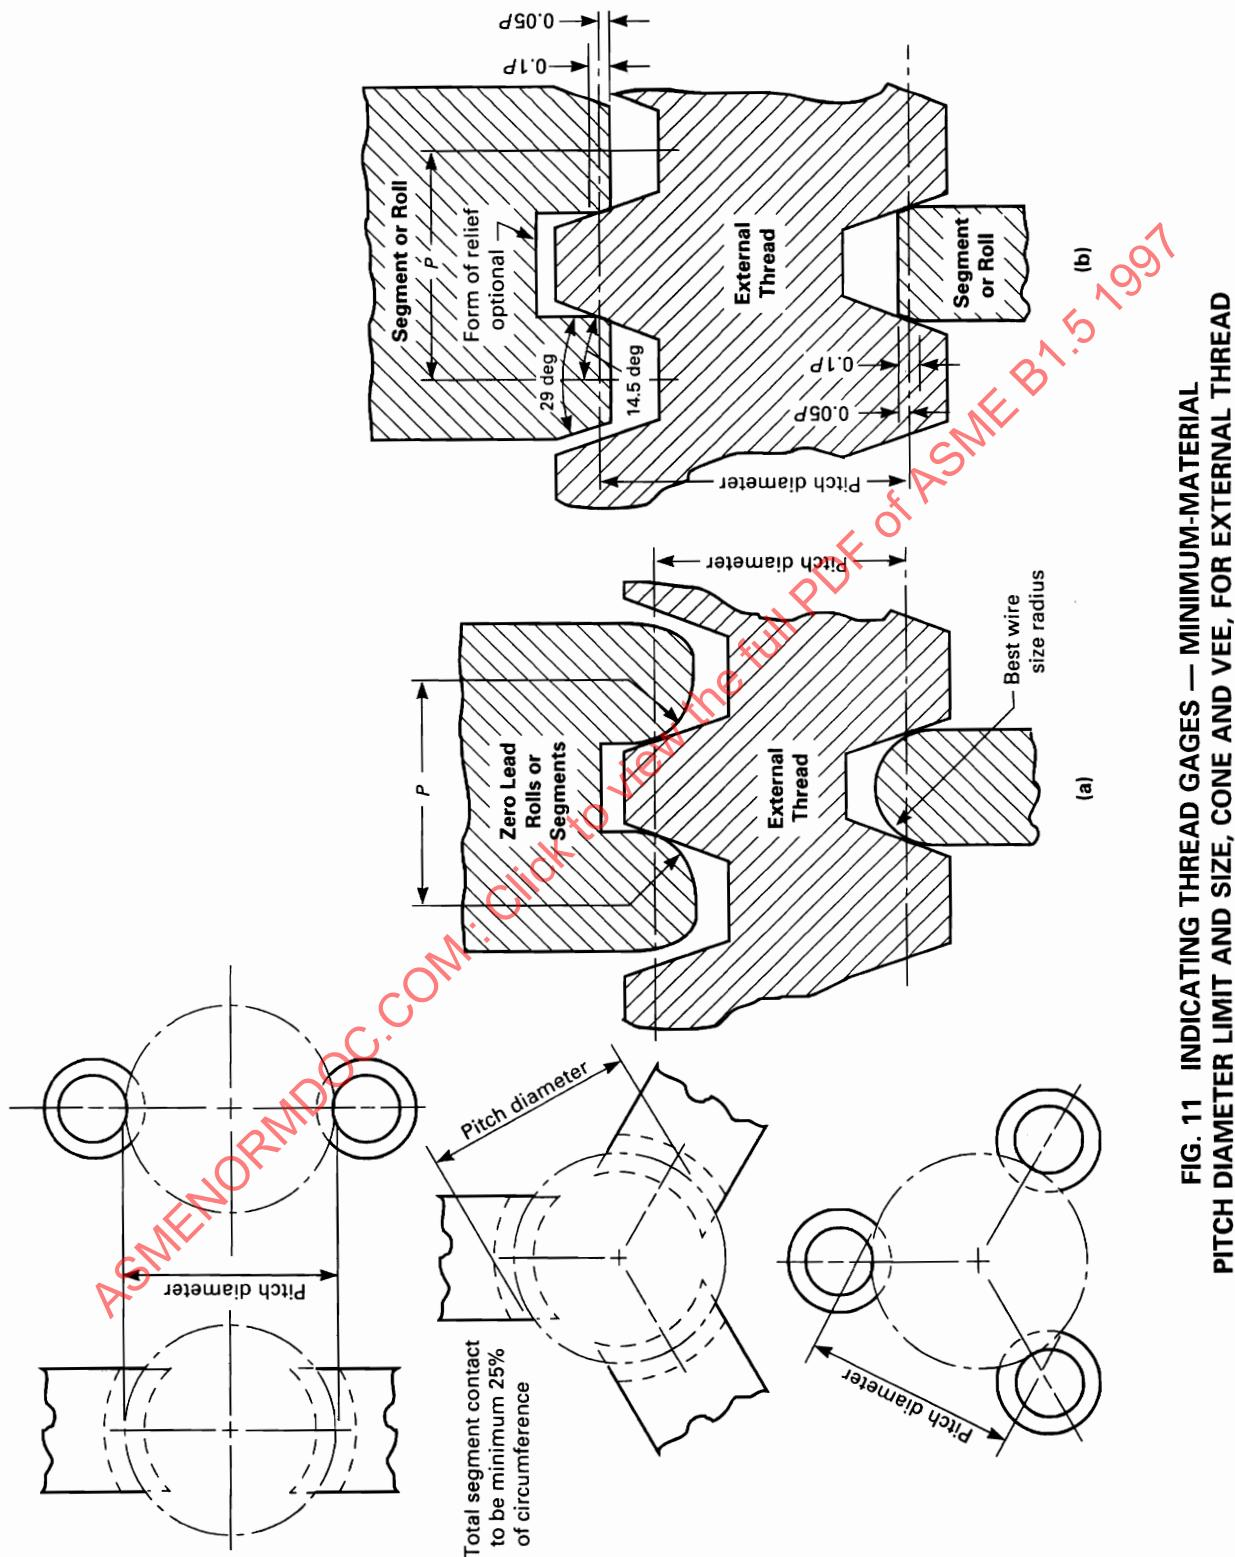
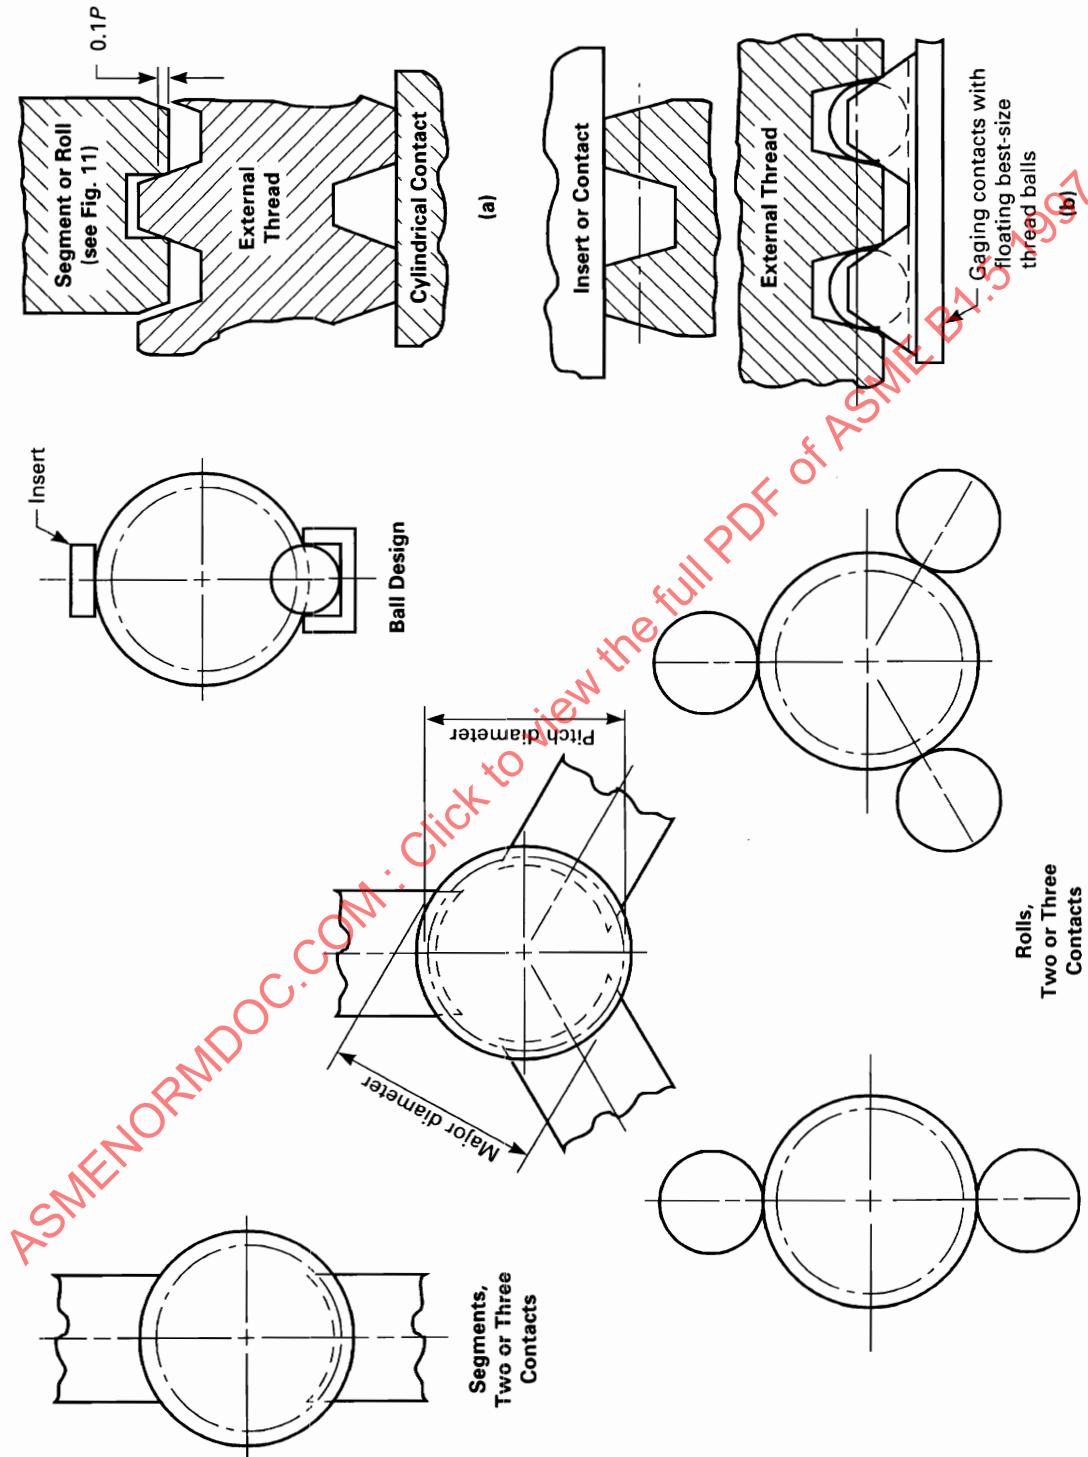

FIG. 11 INDICATING THREAD GAGES — MINIMUM-MATERIAL PITCH DIAMETER LIMIT AND SIZE, CONE AND VEE, FOR EXTERNAL THREAD
FIG. 16 INDICATING THREAD GAGES — DIAMETER RUNOUT, MAJOR TO PITCH DIAMETER, FOR EXTERNAL THREAD
(c) *Thread Form.* The specifications on form of cone and vee segments, cone and vee rolls, and thread groove diameter balls are shown in Figs. 11 and 12.
(b) *Design.* Indicating gages have three contacts, one plain and two threaded at 120 deg, or two contacts, one plain and one threaded, at 180 deg, as shown in Fig. 16. The threaded segments or roll contacts are minimum-material pitch diameter type shown in Fig. 11. The ball type is shown in Fig. 16, sketch (b). The length of the plain contact is designed equal to the
(b) *Single-Element Angle Variation Differential Gaging.* The angle variation differential is the difference in indicator readings (Y-X) illustrated in Fig. 17. The two readings are taken in the same thread without rotating the external threaded product. The (Y) reading is made with the full-form single cone and vee indicating gage illustrated in Fig. 18 and the (X) reading is made with the minimum-material pitch diameter indicating gages illustrated in Fig. 11. The angle differential shall not exceed the specified percentage of pitch diameter tolerance. This type of gaging does not check whether the bisector of the flank angles is perpendicular to the thread axis.